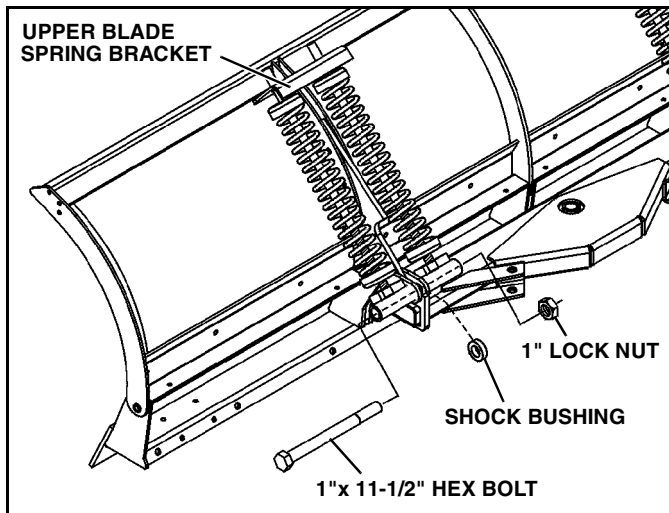

Figure 1-11
7. Fit the trip spring assemblies to the blade (See Figure 1-11).):